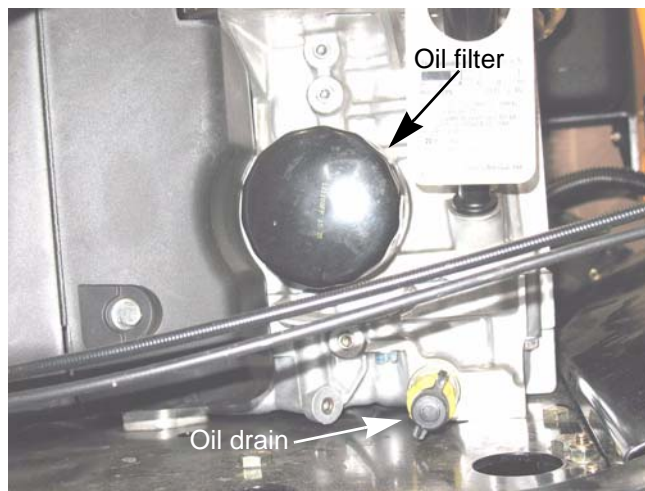

Figure 9.7
1. Remove the cap from the oil drain. See Figure 9.7.